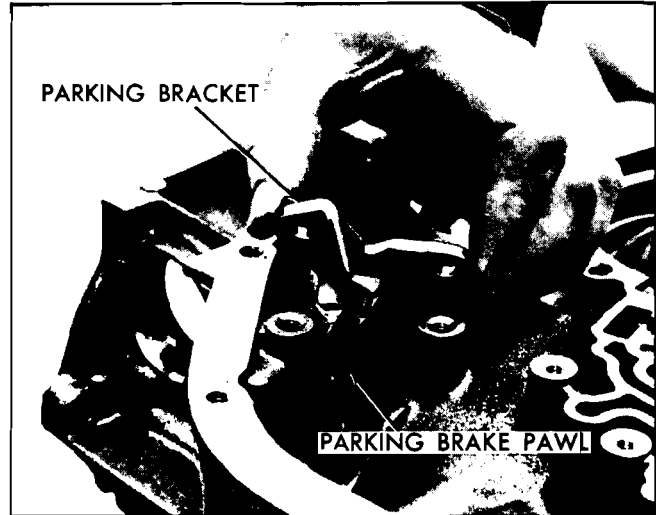

Fig. 7E-35 Removing Parking Bracket
8. Remove front band (Fig. 7E-40).